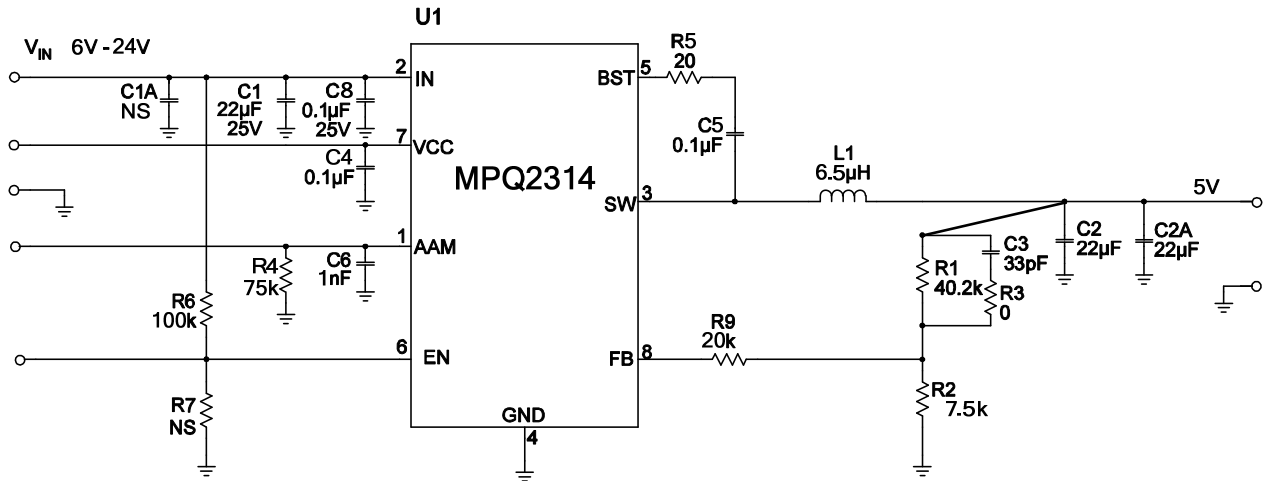

Figure 9: Vo=5V, Io=2A
- 6) The recommended layout is based on the Figure 9 Typical Application circuit on the next page.
The detailed application schematics are shown in Figures 9 through 14. The typical performance and circuit waveforms have been shown in the Typical Performance Characteristics section. For more device applications, please refer to the related Evaluation Board Datasheets.